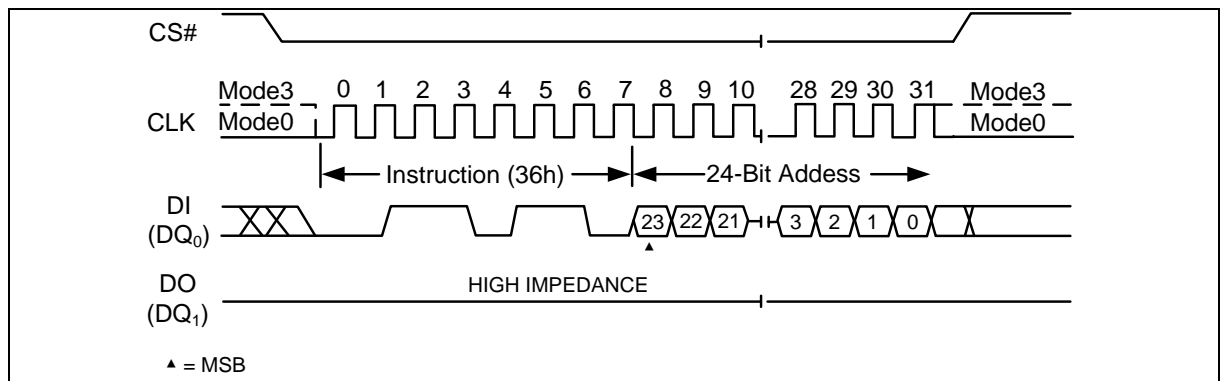

Figure 107 Read Block/Sector Lock Instruction(SPI)
To lock a specific block or sector as illustrated in Figure 107, an Individual Block/Sector Lock command must be issued by driving CS# low, shifting the instruction code “36h” into the Data Input (DI) pin on the rising edge of CLK, followed by a 32/24-bit address and then driving CS# high.